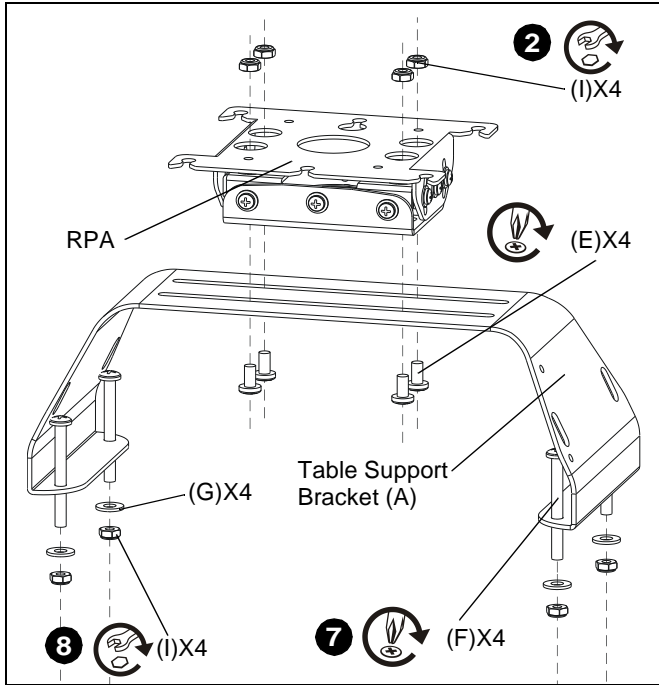

Figure 1
1. Turn the table support bracket (A) on its side.
2. Attach RPA to table support bracket using four 1/4"-20 X1/2" (E) Phillips screws and four Nylock nuts (I). (See Figure 1)